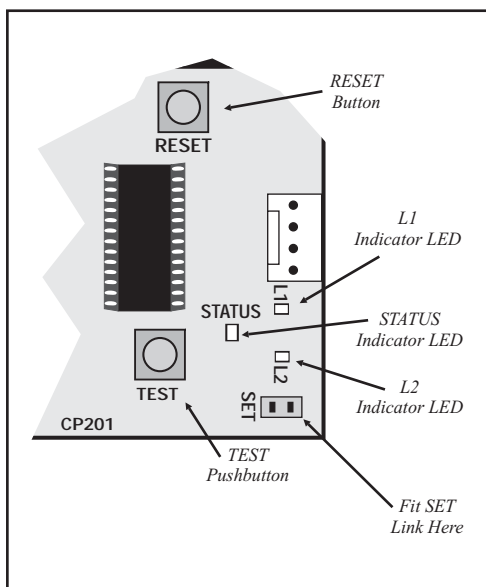

Figure 23 Controller SET Link & Programming LED's
5. Fit the SET link jumper to the SET pins shown in Figure 23.
7. Press and hold the TEST pushbutton (Figure 23) down, for 1 flash of L1, and then release. L2 will go off, and L1 will now be flashing once per second.
18. **Fit the SET link** jumper to the SET pins as shown in Figure 23.